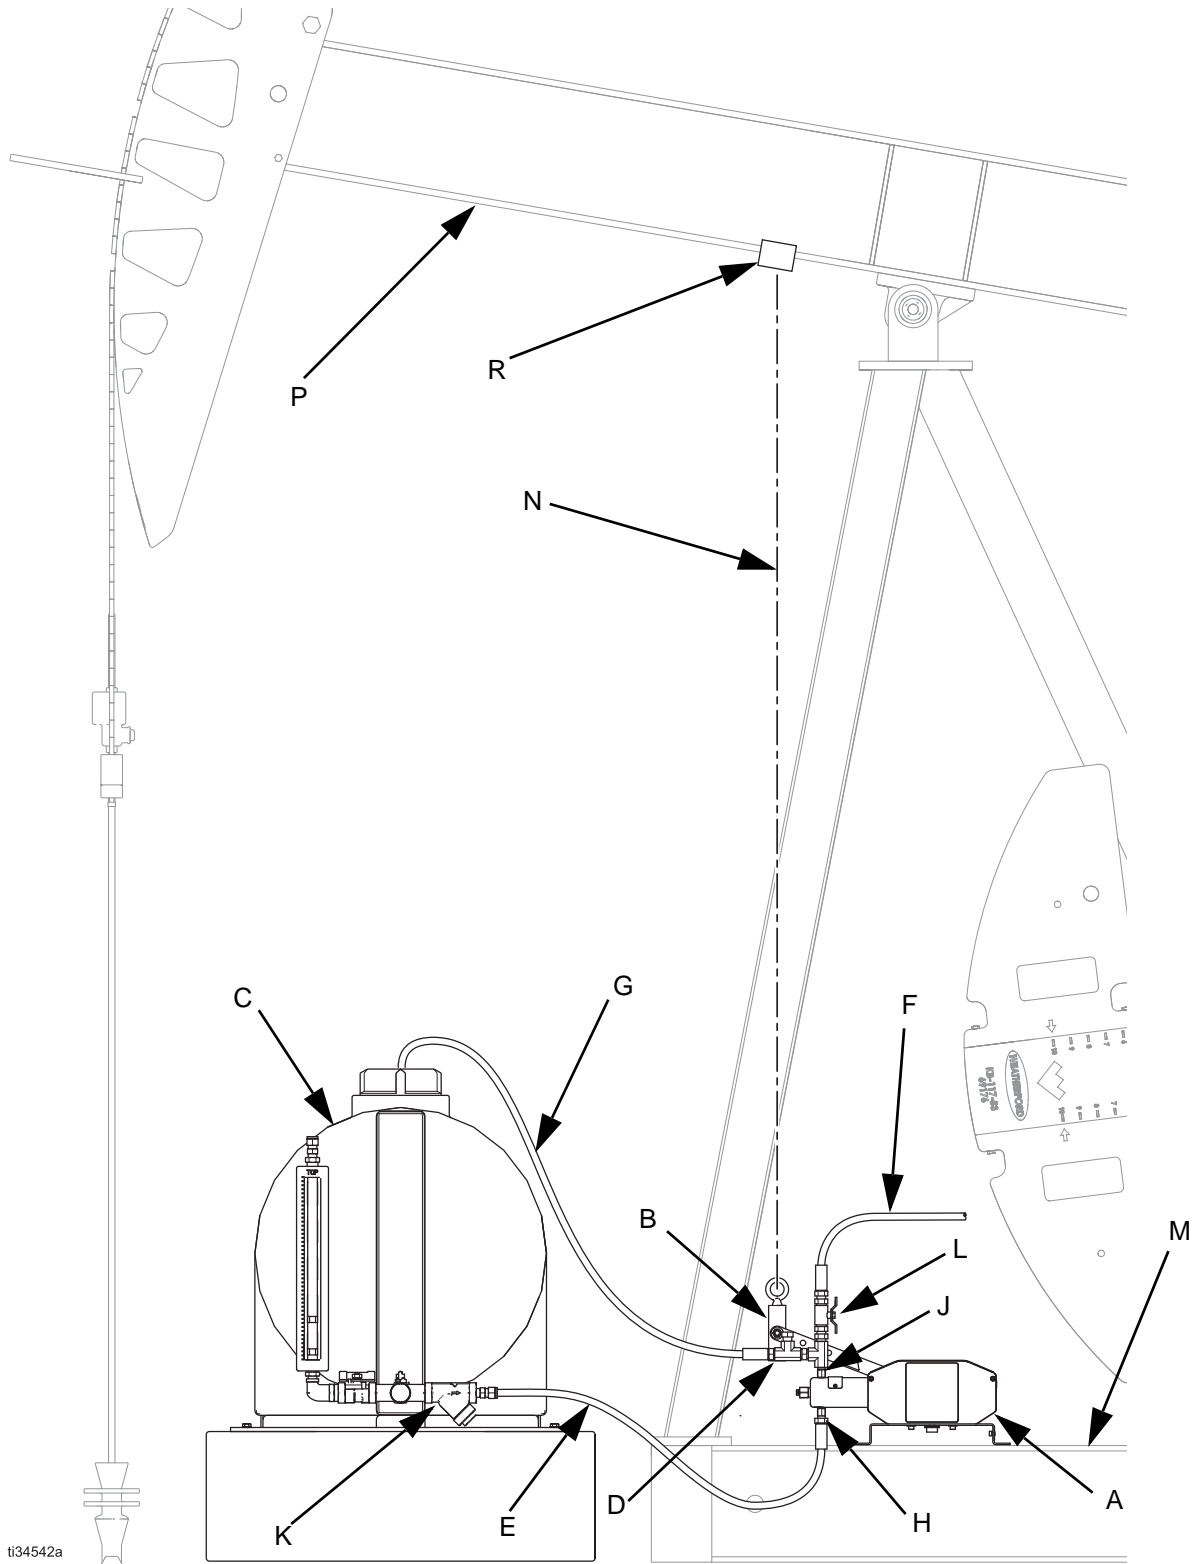

FIG. 3 Typical G-Chem beam pump installation with pumpjack
Install the following required accessories in the order shown in a typical installation (see FIG. 3 on page 9) using adapters as necessary.
FIG. 3 is an example of an installation with a G-Chem chemical injection beam pump. Your installation may differ from what is shown here. (See **Accessories** on page 8.) The G-Chem beam pump (A) and the swivel block (B) are the only components in FIG. 3 supplied by Graco. All other components are supplied by customer.
3. Install a pressure relief valve (D) on the outlet side of the pump. See FIG. 3 on page 9.
2. Shut off the inlet (E) and outlet (F) lines using shut-off valves (L). See FIG. 3 on page 9.
3. Slowly loosen the fitting connected to the outlet check valve (216) to relieve downstream fluid pressure. See FIG. 3 on page 8.
4. Open the bleed needle (211) on the end of the pump cylinder (201) to relieve internal pump pressure.
5. Disconnect and cap the inlet (E) and outlet (F) fluid lines.
2. Disconnect lever arm (122) from the pumpjack.
3. Connect the inlet check valve (215) to the supply source of the flushing fluid. See FIG. 3 on page 8.
4. Connect the outlet check valve (216) to a waste reservoir.
5. Operate the lever arm (122) by hand until the dispensed fluid is predominantly flushing fluid.
7. Reconnect the lever arm (122) to the pumpjack. Refer to **Pumpjack Connections**, page 10.